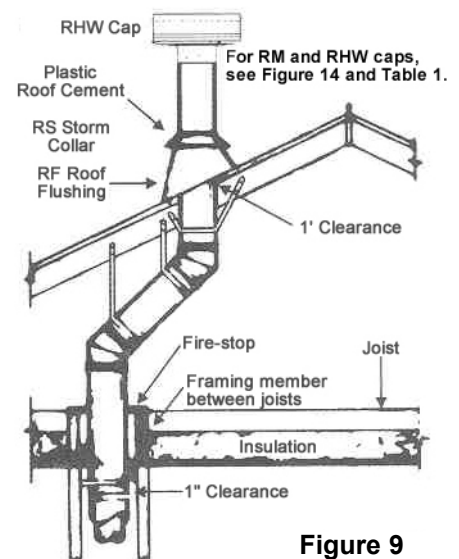

Figure 9
- (B) The necessary straight lengths of pipe should be connected to the elbow, tee, or the draft hood connector, and all joints should be securely locked together as indicated above.
- (C) Floors, ceilings, and other combustible construction should be cut away or framed as necessary to provide a **MINIMUM OF 1-INCH CLEARANCE** from the surface of the vent pipe. Metal straps should be used to maintain the vent pipe in position to ensure that the **1-INCH CLEARANCE** to combustibles is maintained after the walls are closed. (See Figure 9.) **DO NOT SCREW INTO THE VENT.**
- (D) Whenever possible, the vent should be continued straight out through the roof. If it is necessary to make offsets in the attic space, the lateral run should be sloped upward as sharply as possible, using elbows to minimize resistance. The lateral run should be supported using metal straps, and again maintaining the **MINIMUM CLEARANCE OF 1 INCH** from combustibles. (See Figure 9.)
- In many instances, vents pass through ceilings that are insulated. In these cases, it is necessary to frame around the opening cut in the ceiling for passage of the vent pipe so that building insulation or other combustible material will not come in contact with the surface of the vent. This framing should, of course, be arranged to **PROVIDE 1-INCH MINIMUM CLEARANCE** from the surface of the vent. (See Figure 9.)